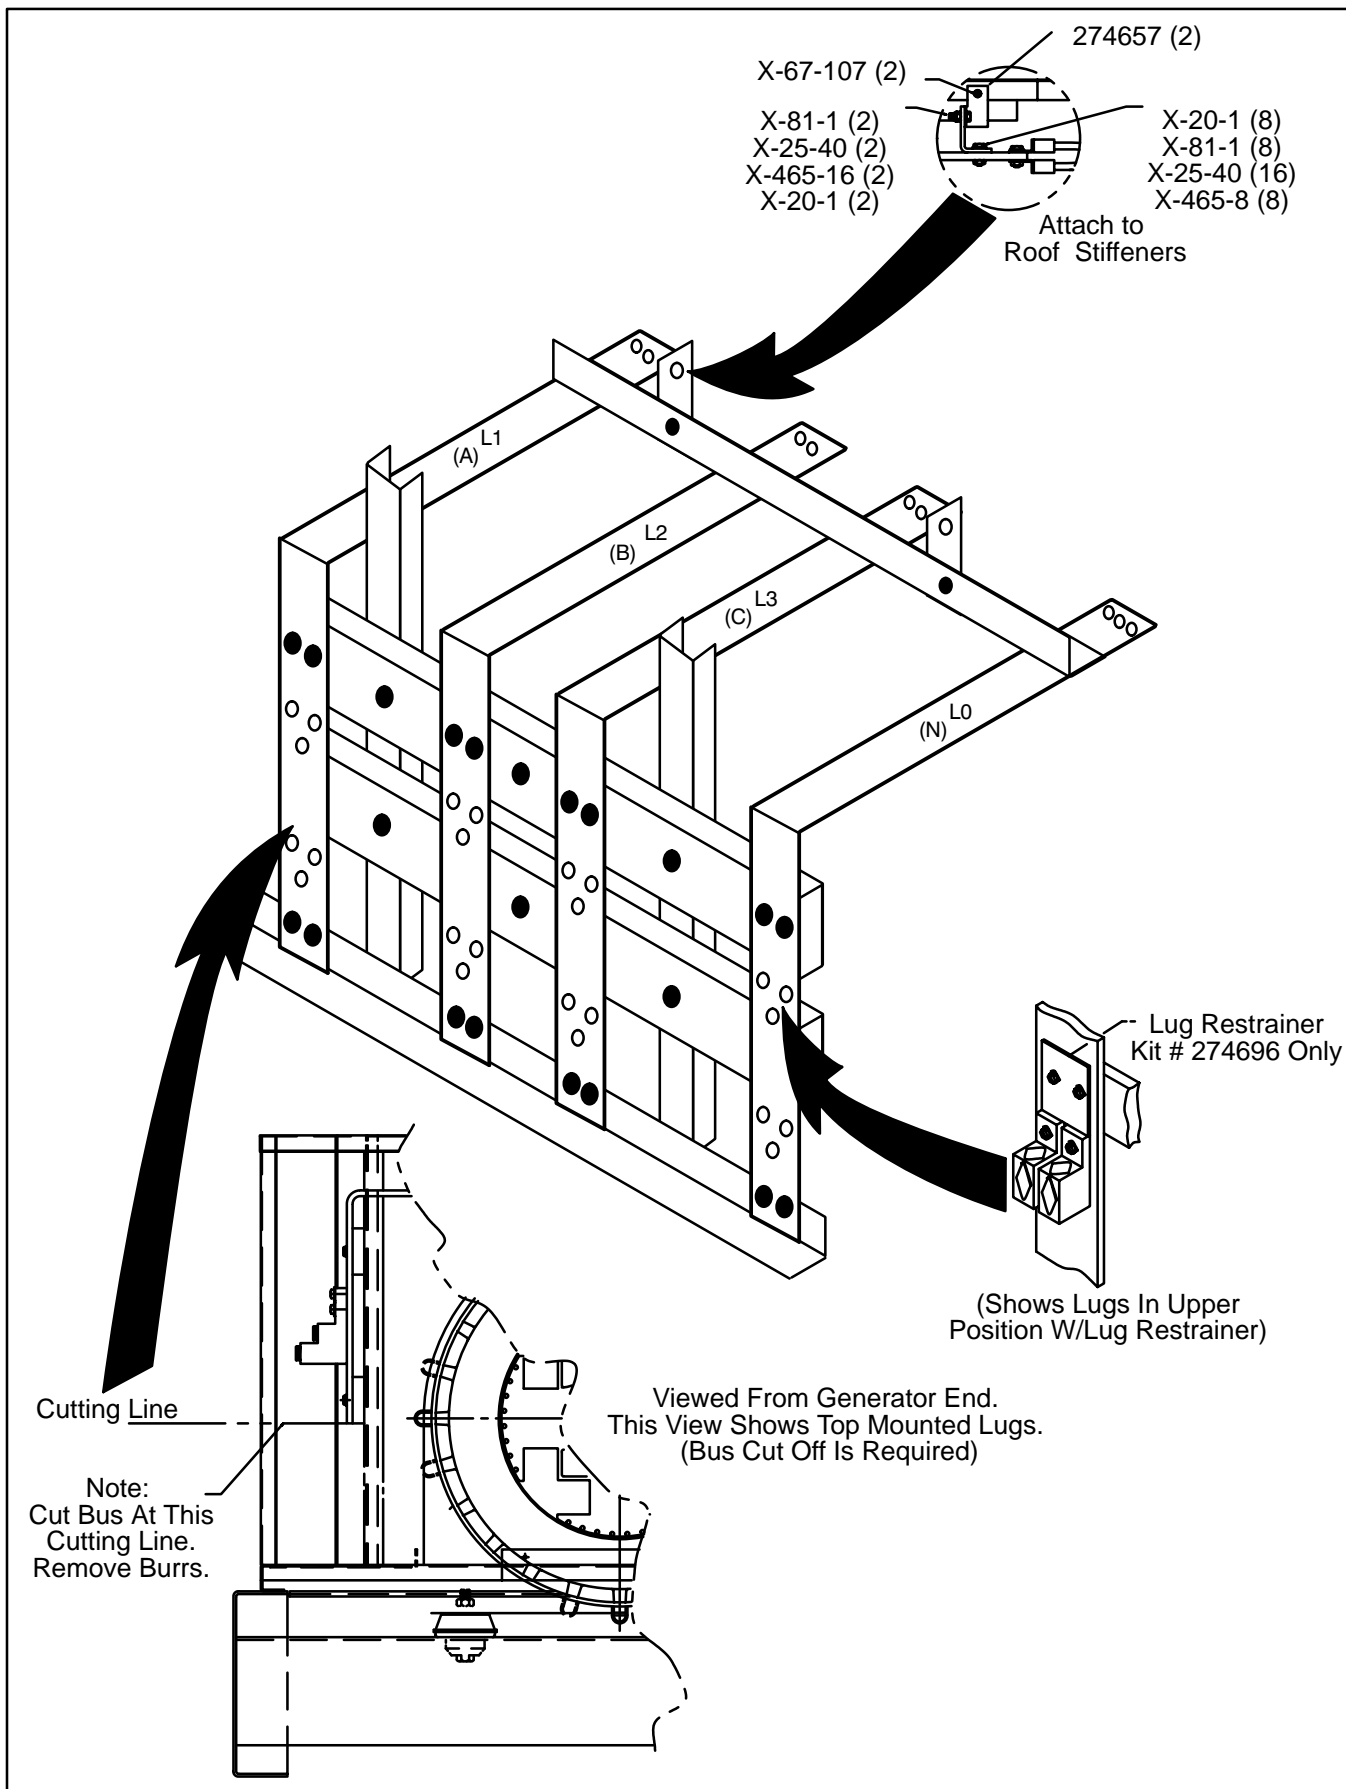

Figure 1. Assembly
2. If terminal lugs are to be mounted in lower positions, mount the longer fiberglass insulating angle/support bracket (274661) to the floor of the junction box as shown in Figures 1 and 2.
4. Mount the two insulating channels (274662) and bus supports (274659) to the junction box support channels as shown in Figures 1 and 2.
5. Mount bus bars (A-274670) to bus supports. Final tighten all bus bar mounting hardware. If terminal lugs are to be mounted in upper positions, cut off bus bars below the lower support as shown in Figure 1.
6. Mount terminal lugs to the bus bars in either upper or lower position as shown in Figures 1 and 2.